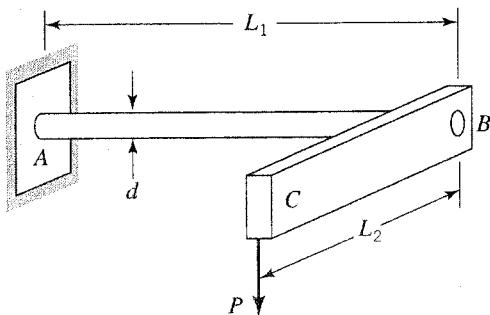

FIGURE P6.11
6.11. The load P produces a downward deflection Δ of point C (Figure P6.11). For small deflections, P is related to Δ by the relation